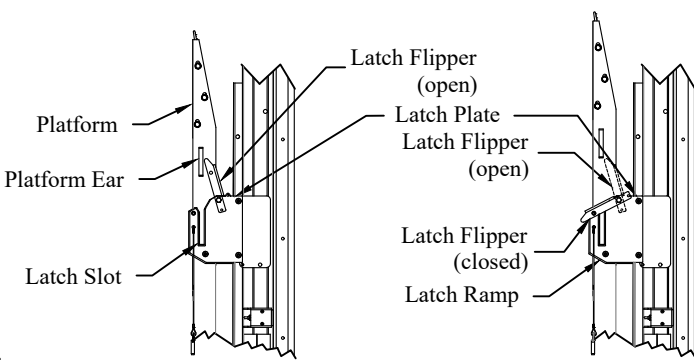

Figure 14: Step 7.
- Step 7. With one hand, push up on the control toggle switch to raise the platform ear out of the latch plate, while holding the platform in the vertical position with the other hand (Figure 14).